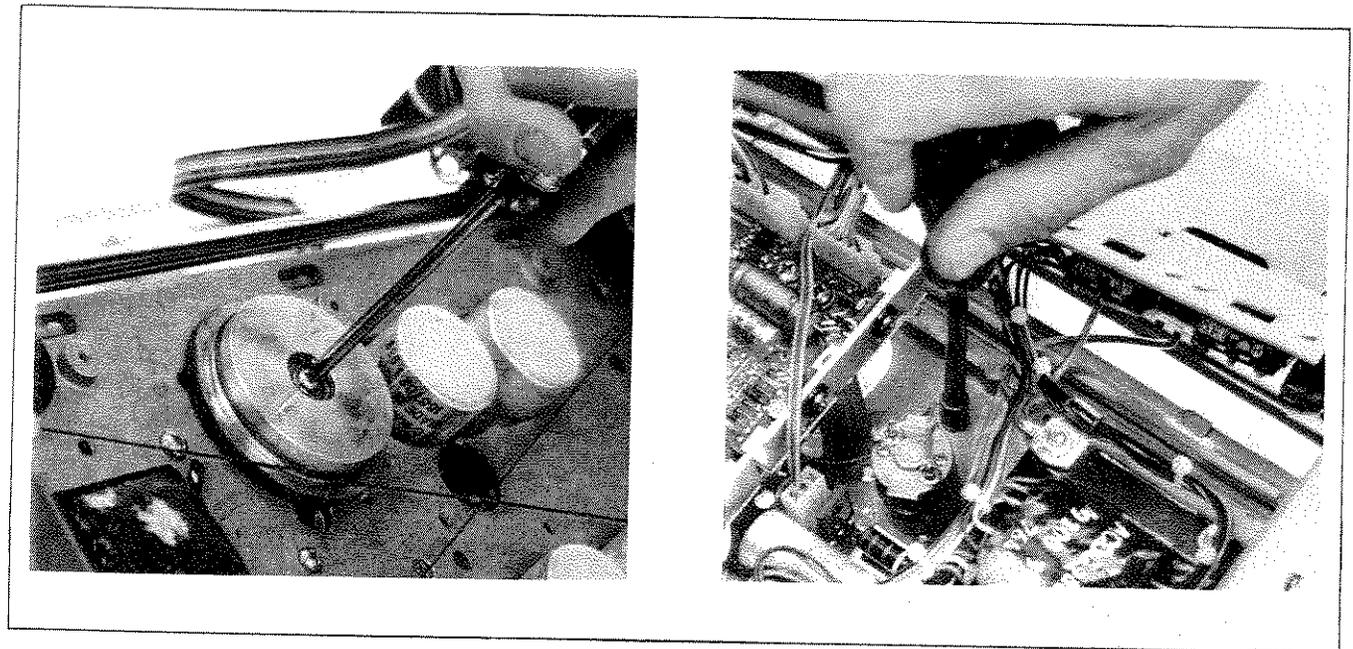

Figure 8-11. X-Axis Drive Gear Removal
- b. Remove old stringing by removing screw on slider block and screw that holds alignment block to end cap. Block slides out to expose loop part of stringing. Unwind. See Figure 8-11.